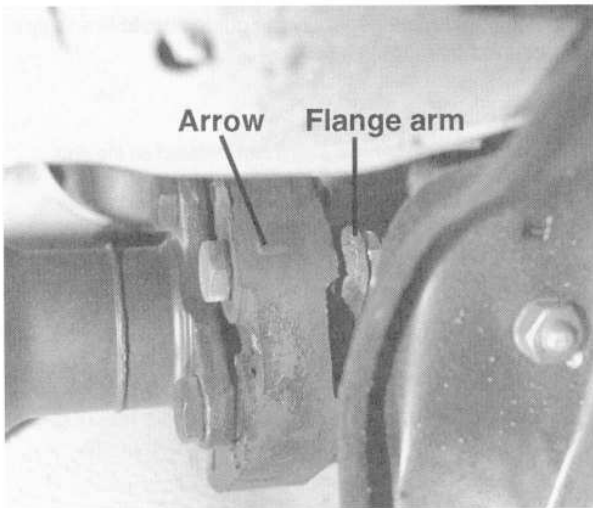

Fig. 9. Install flex-disc with arrows on disc facing flange arms.
3. Install new flex-disc using new self-locking nuts. Molded arrows on coupling should face flange arms. See Fig. 9.